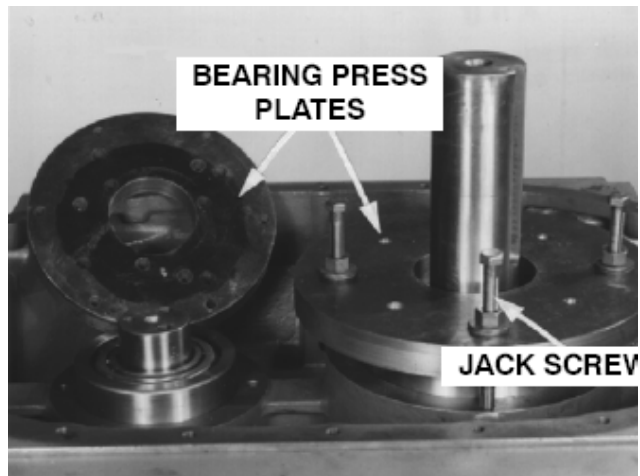

FIGURE 7-17 – BEARING PRESS PLATE
17. Lightly coat the shaft extension and bearing bore with oil. Assemble bearings (34, 35), as shown in (FIGURE 7- 5, page 42), on the shaft. Assemble the press plate (refer to FIGURE 6-1, and FIGURE 6-2, Disassembly page 36), on the bearing and install the jack screws, (FIGURE 7-17). Progressively tightening nuts on the jack screws presses bearings in place. To prevent possible damage to the bearings and threads on the shaft, press one bearing over the shaft into the shaft, press one bearing over the shaft into the bore at a time, rather than with both bearings stacked together. When the first bearing is flush with the top face of the bore, the second bearing may be started. Tighten nuts on the jack screws evenly to prevent cocking of the bearings on the shaft and in the bore.